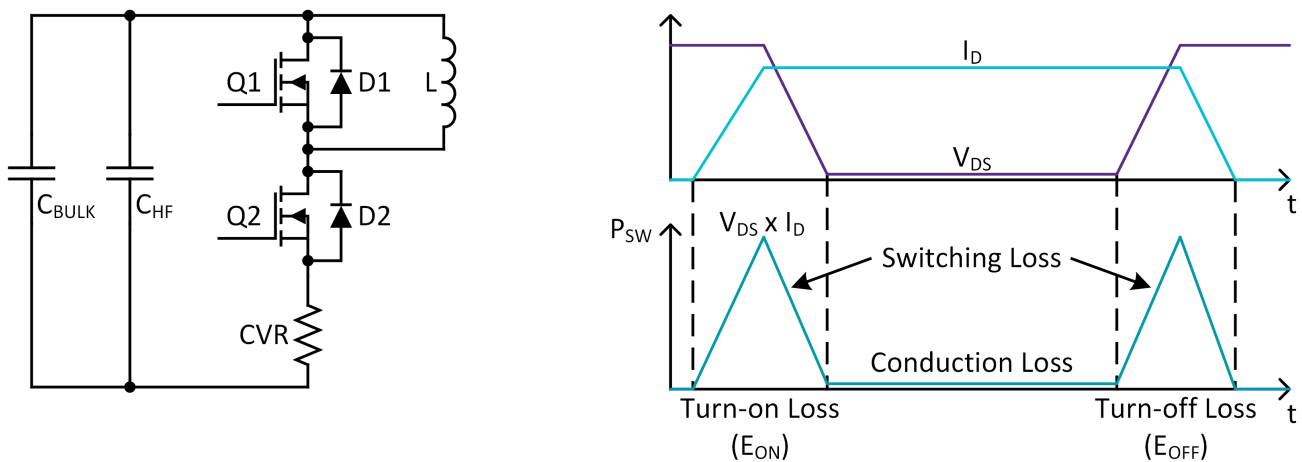
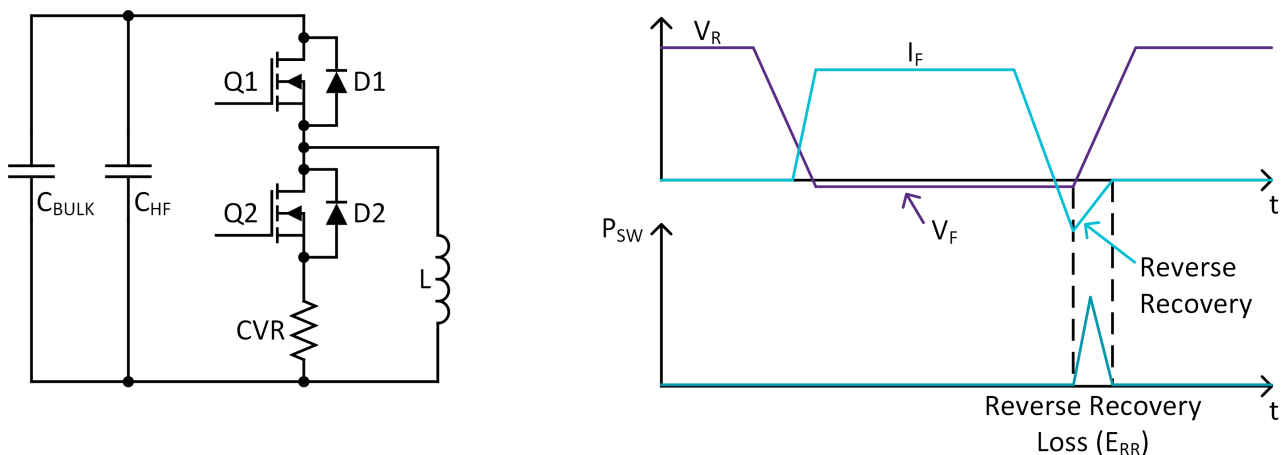

Figure 6: CIL test fixture used to measure the switching loss of MOSFET Q2
Figure 7: CIL test fixture used to measure the switching loss of body diode D2
For half-bridge modules, the test fixtures to measure both events are given below in Figure 6 and Figure 7, respectively. Q1 and Q2 represent the respective switch positions of the Wolfspeed half-bridge power module. Likewise, D1 and D2 represent the intrinsic body diodes of each switch position. Some modules may include embedded Schottky diodes in parallel with the MOSFET. For both tests, film capacitors ( $C_{BULK}$ ) are used for bulk energy storage to provide the needed energy transfer to the inductor (L) for the switching event, while high-frequency ceramic capacitors ( $C_{HF}$ ) are used to provide a low-inductance switching loop. For MOSFET switching measurements in Figure 6, the inductor is connected across the upper switch position of the module from the midpoint to the positive bus rail while Q1 is held off and Q2 is pulsed; for body diode switching measurements in Figure 7, the inductor is connected across the lower switch position of the module to the negative bus rail while Q1 is pulsed and Q2 is held off.
For six-pack power modules, the test fixtures to measure both events are given below in Figure 6 and Figure 7, respectively for the “W” phase leg. Phase legs “U” and “V” are inactive in this example and are configured to remain off during testing to avoid affecting the measurements of the active switch positions. Q5 and Q6 represent the selected switch positions of the Wolfspeed six-pack power module. Likewise, D5 and D6 represent the intrinsic body diodes of each switch position. For both tests, film capacitors ( $C_{BULK}$ ) are used for bulk energy storage to provide the needed energy transfer to the inductor (L) for the switching event, while high-frequency ceramic capacitors ( $C_{HF}$ ) are used to provide a low-inductance switching loop. For MOSFET switching measurements in Figure 6, the inductor is connected across the upper switch position of the phase leg from the “W” midpoint to the positive bus rail while Q5 is held off and Q6 is pulsed; for body diode switching measurements in Figure 7, the inductor is connected across the lower switch position of the phase leg to the negative bus rail while Q5 is pulsed and Q6 is held off.